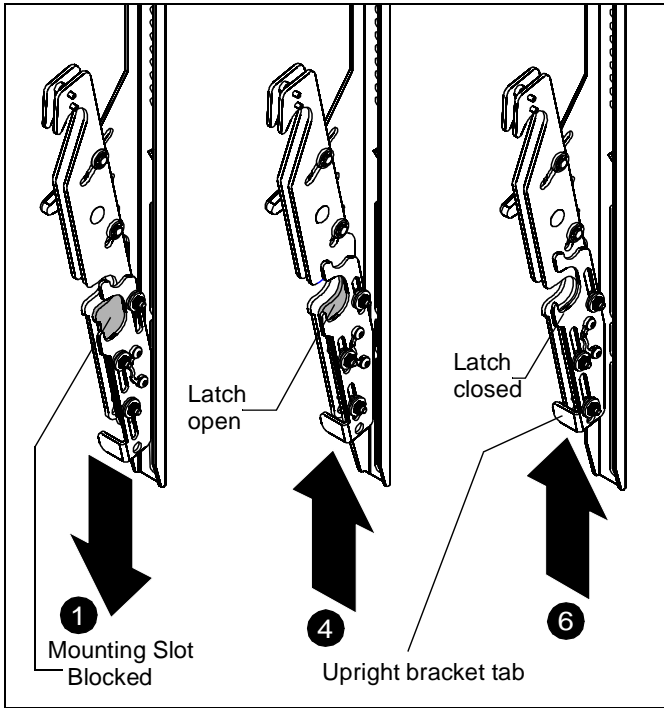

Figure 8
1. Push upright brackets tabs all the way down so that the lower mounting slot is blocked. (See Figure 8)
4. Move screen towards the wall by pulling display bottom away from wall and pushing the upright brackets tabs up one notch to the detent which you will be able to feel (approximately half way up). (See Figure 8)
6. Raise upright brackets tabs all the way to secure the brackets onto the wall mount. (See Figure 8)